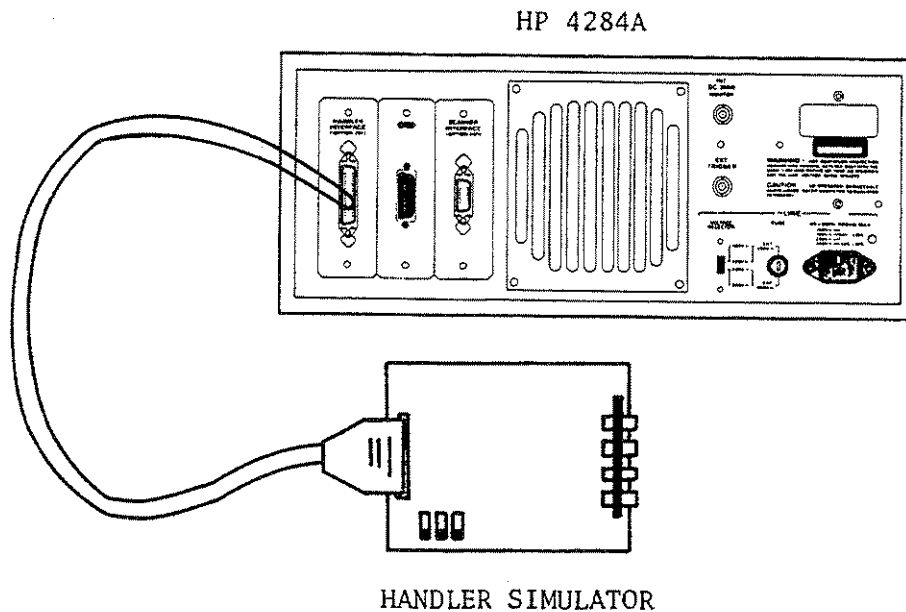

Figure 10-15. Handler Interface Function Test Set UP
17. Confirm that the LEDs on the handler simulator turn ON in accordance with the HP 4284A's output signals displayed on the LCD. The LEDs turn ON light in the sequence shown in Figure 10-15.